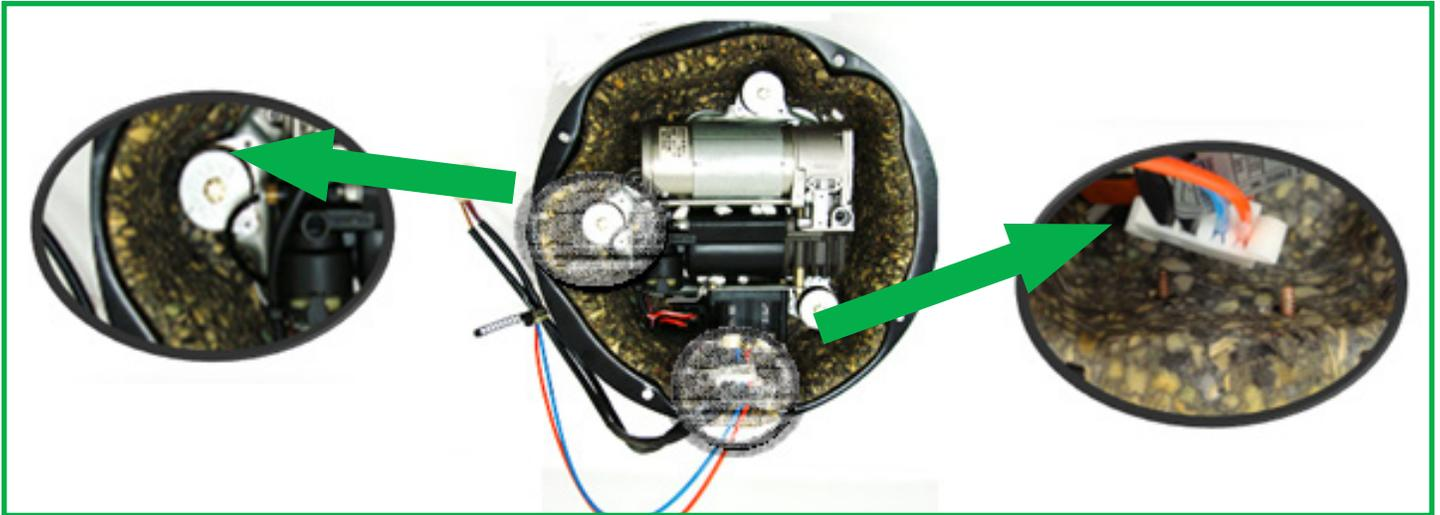

FIGURE 5
3. Remove the cable clamp from housing. Disconnect the air line(s) and the electrical connector from the compressor. Remove the air line fitting from the air hose and discard. (Figure 5)